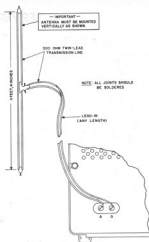

Fig. 1. Construction Details of the Doublet Antenna
ANTENNA INSTALLATION - The terminals marked A and G on the back of the receiver are for antenna and ground connections. To facilitate antenna installation, a six foot antenna wire has been included with your receiver. This antenna vertically mounted will provide reception of signals over a distance of approximately 7 to 10 miles. If you are located farther from a transmitting station, an outside antenna may be required. The outside antenna may be either a vertical whip or vertical doublet. A doublet antenna can be easily constructed from standard 300 ohm twin-lead TV transmission line. (See Fig. 1.) Whip antennas suitable for both outdoor and mobile use are made by Master Mobile Mounts Inc. and Ward Products Corp.
1. Construct the antenna from a length of 300 ohm twin-lead transmission line as shown in Fig. 1.